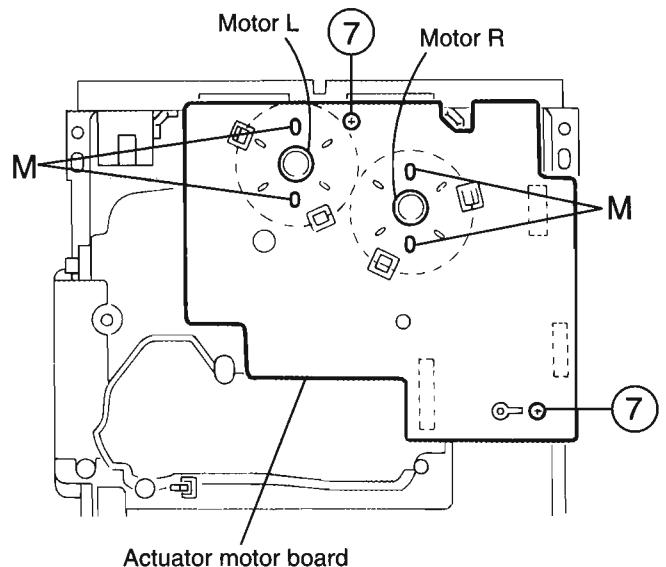

Fig.14
■ Removing the actuator motor board (See Fig.14, 15)
- Absorb the four soldered positions "M" of the right and left motors with a soldering absorber(See Fig.14).
- Remove the two screws 7 retaining the actuator motor board(See Fig.14).